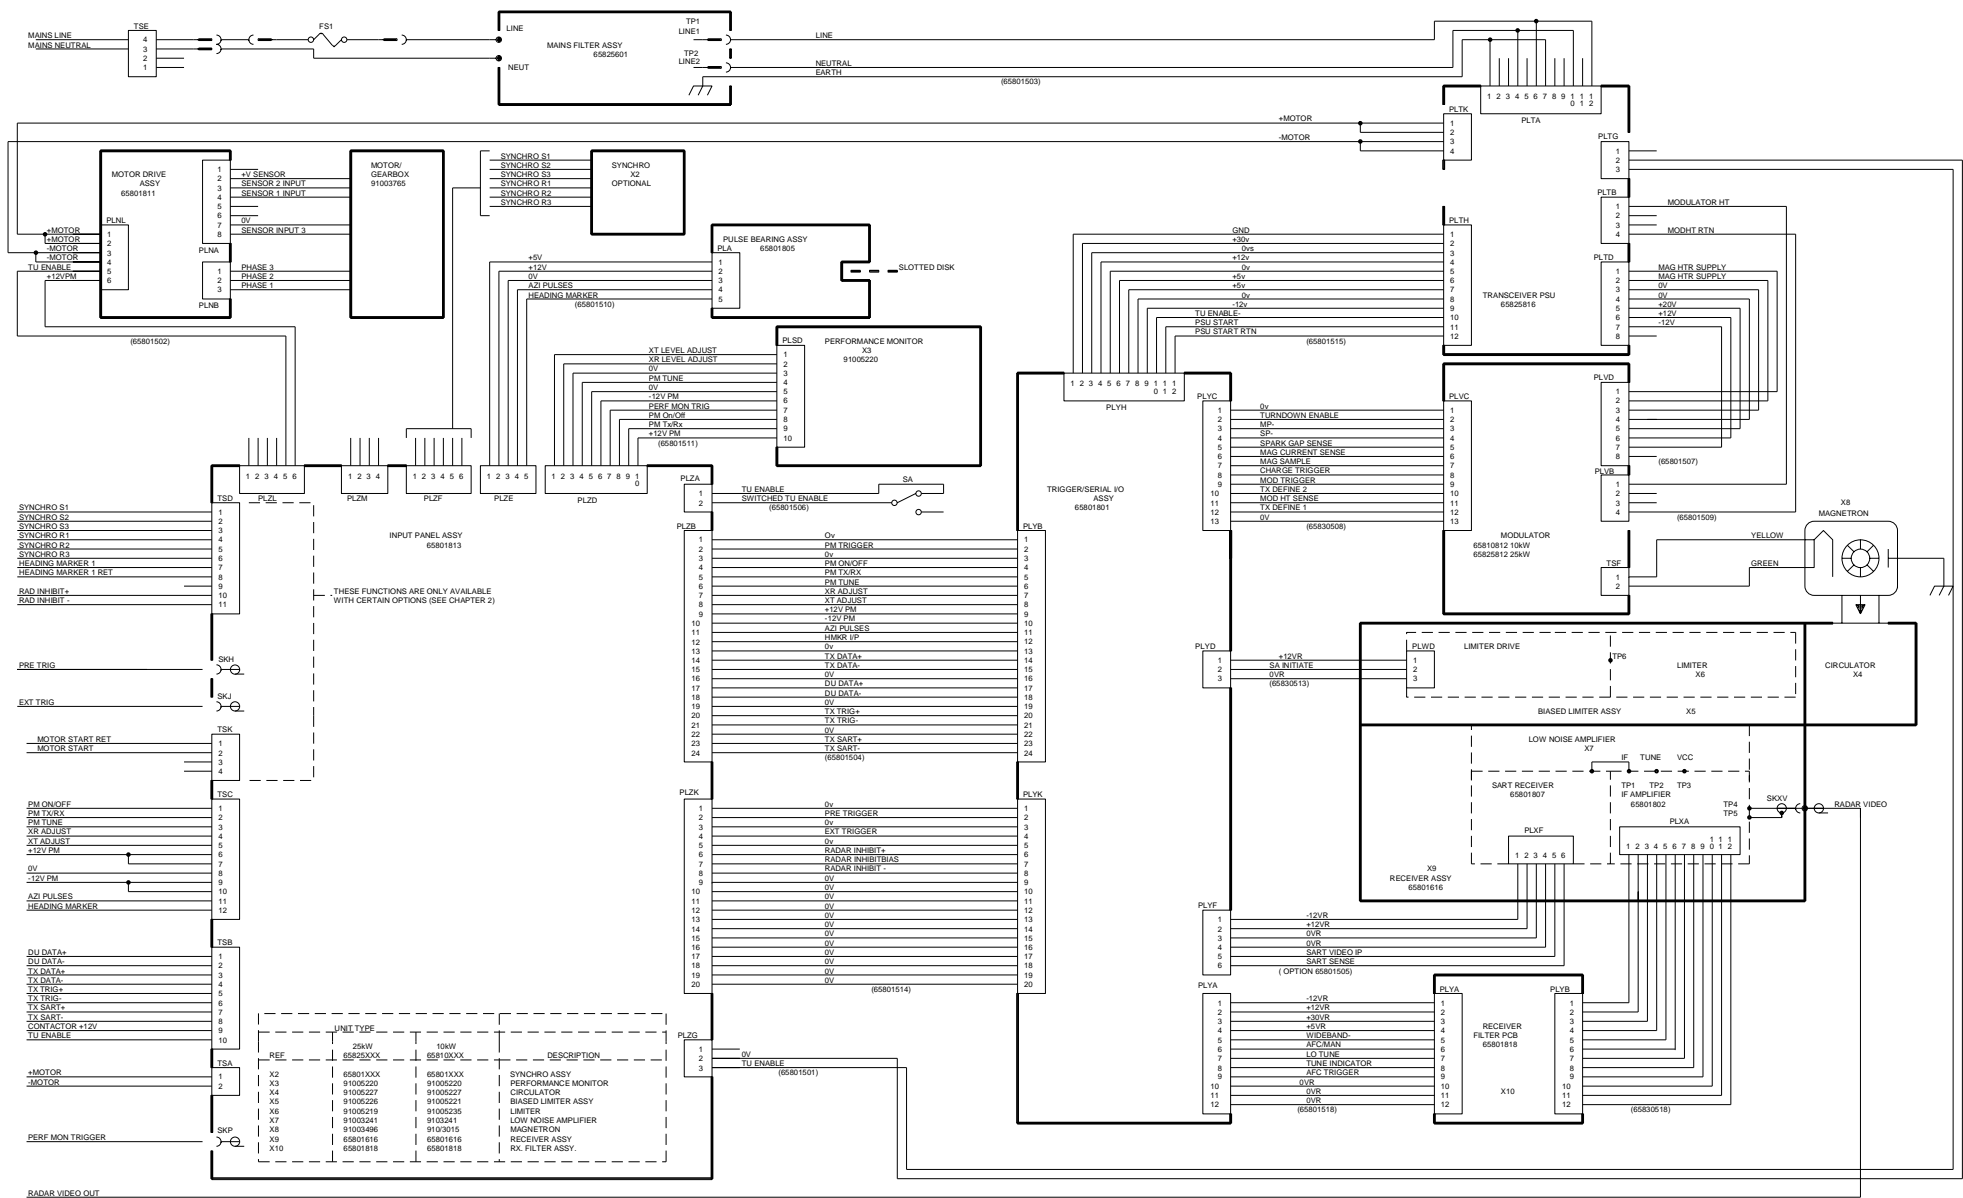

Figure 2.36 X-Band Turning Unit (Aloft) Schematic
- Figure 2.36 X-Band Turning Unit (Aloft) Schematic
A3 page 2-87/88 Figure 2.36, discard this A4 sheet.